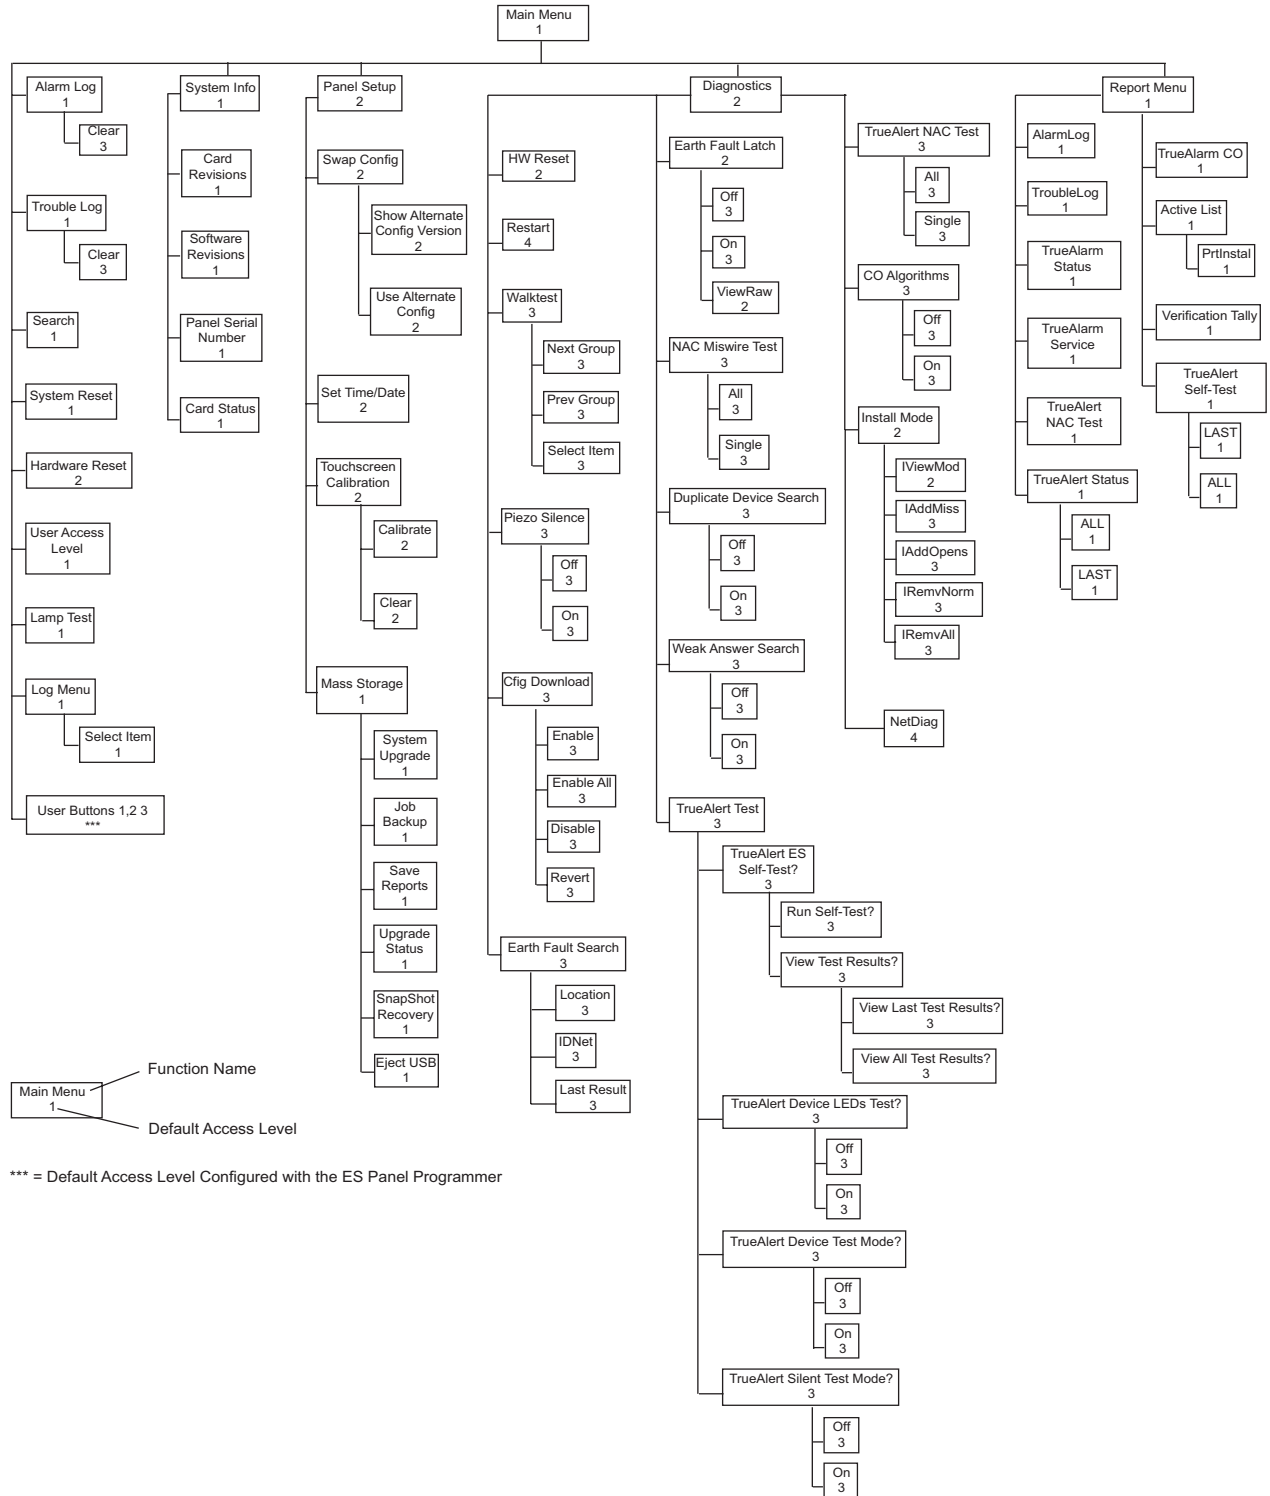

Figure 6. User Access Level Chart
2. Only some functions are available at each access level. The User Access Level Chart (Figure 6) shows functions with associated default user access levels.
Use the **System Info** function to obtain detailed information regarding the panel and its components. Tap on a menu icon to access that option's main screen. Refer to Figure 6 for access levels required to use each option inside the **System Info** screen.
Panel Setup Overview: Use the Panel Setup function to modify the configuration of the basic panel components. Tap on a menu icon to access that option's main screen. Refer to Figure 6 for access levels required to use each option inside the **Panel Setup** screen.
Alarm Log Overview: The **Alarm Log** screen contains a list of alarms that the panel has received. Refer to Figure 6 for access levels required for each option inside the **Alarm Log** screen.
Trouble Log Overview: The **Trouble Log** screen contains a list of Troubles that the panel has received. Refer to Figure 6 for access levels required for each option inside the **Trouble Log** screen.
Search Overview: Use the **Search** screen to look for configured points under panel control. Refer to Figure 6 for access levels required for each option inside the **Search** screen.